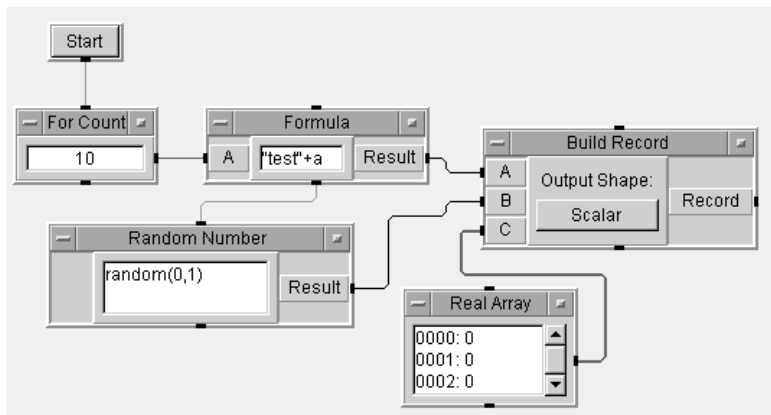

Figure 8.1. Partial layout of Lab 8.1
22. Connect the data-output pin of Real Array to the C input pin on Build Record. See Figure 8.1.